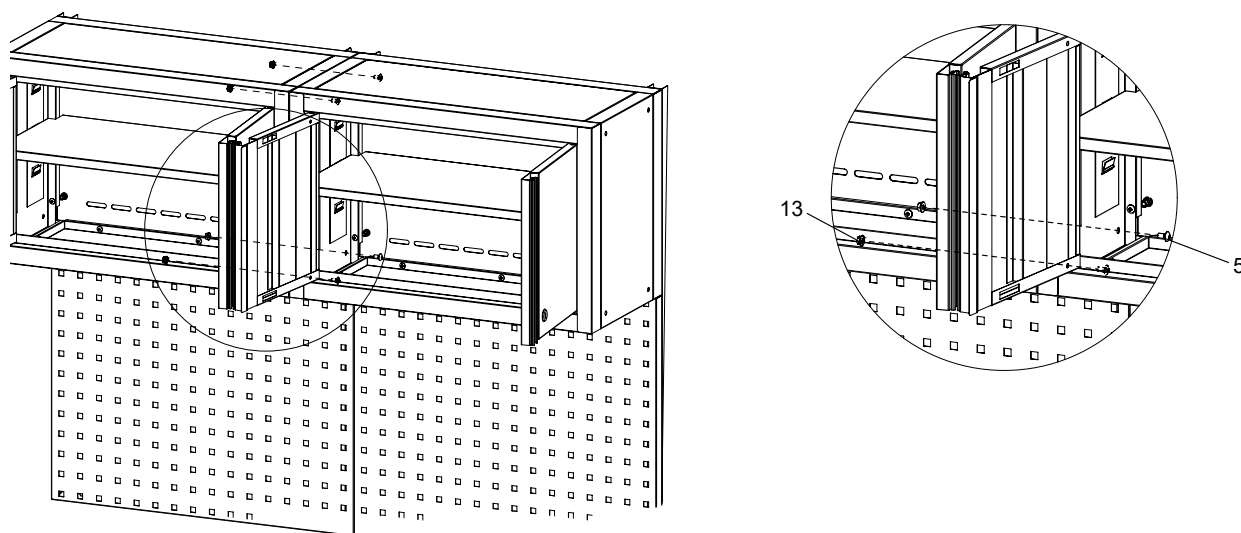

fig.4
5.4. Open the wall cabinet doors, align the wall cabinets, and connect them together. Assembly of the workstation is complete. Fig.4